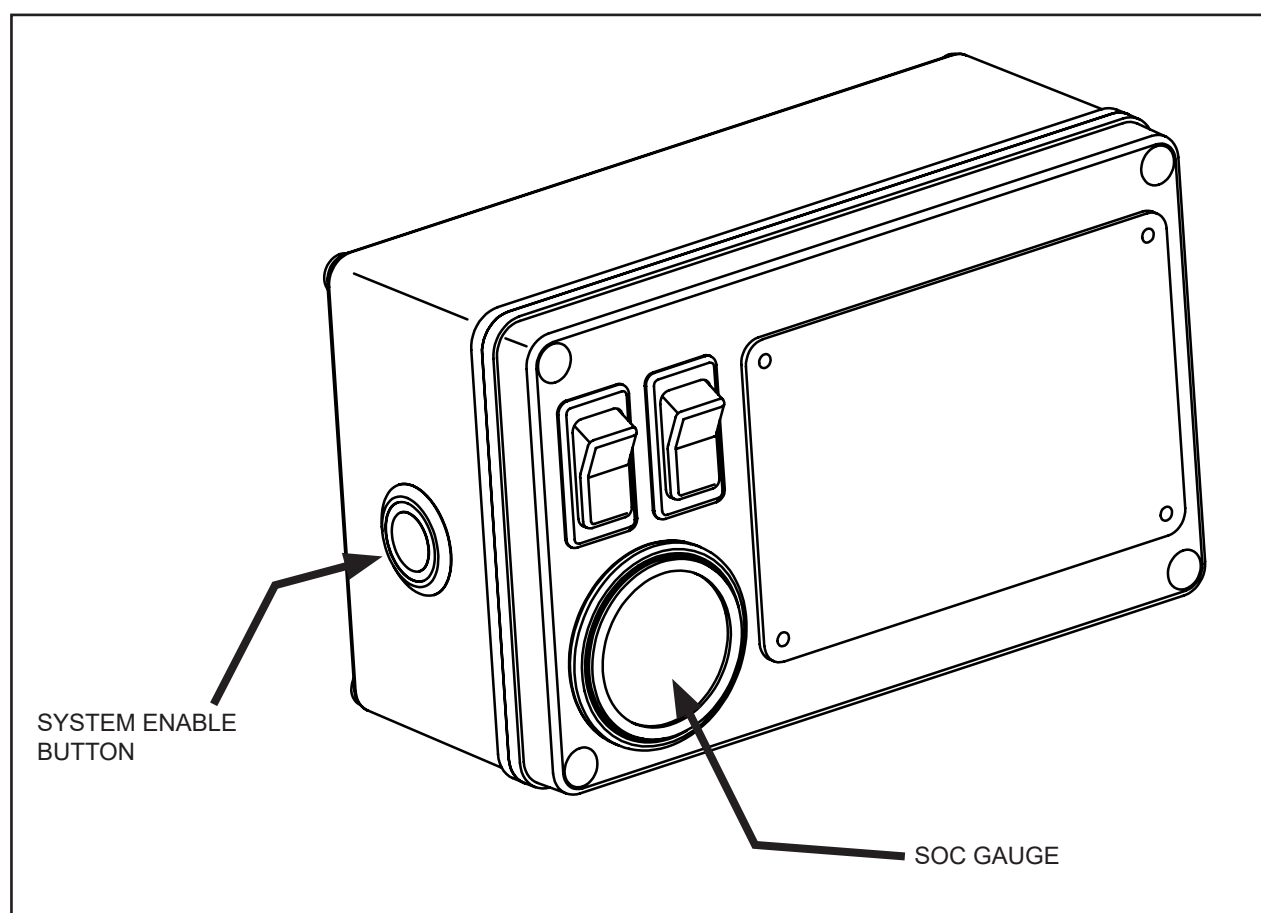

Figure 04: HPS Control Panel - System Enable Button & SOC Gauge
**110V Power Outlet (Pure Sine)** - (Figure 01) Your HPS System installation may have a 110V outlet mounted in your cab. The outlet is only powered if the System Enable button is depressed on HPS System Control box (Figure 04).
110V Power Outlet (Pure Sine) - Your HPS System installation may have one or more 110V outlets mounted throughout your vehicle. The outlets are only powered if the System Enable button is depressed on HPS System Control box (Figure 04).